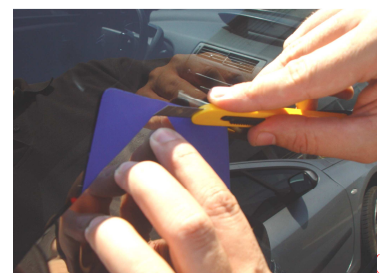

FIG 05)
10. Bevel the two edges of the compound at the top. (FIG05)